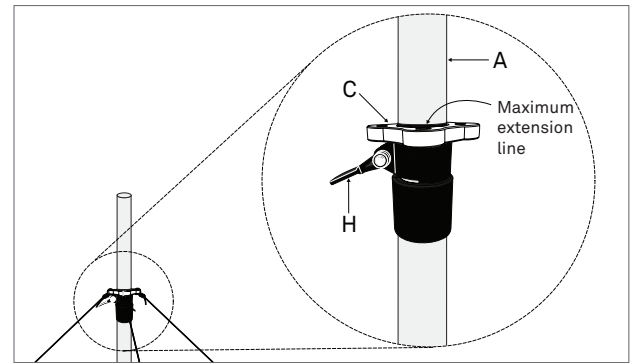

Figure 7 Locking lever (H)
2. Lift the locking lever (H) by pulling it up (Figure 7).
3. Raise the top portion of the mast (E) to the desired height.
**NOTE:** The height should be no higher than when the maximum extension line is level with the guy rope ring (G) (Figure 7). If the mast (E) is raised higher than it is supposed to be, the top portion of the mast (E) will be unstable.
4. Lower locking lever (H).